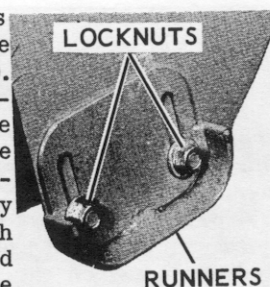

Figure 1
a. An adjustable runner is provided on each end of the blower housing (figure 1). Raising or lowering these runners controls the distance the scraper blade is held above the surface being plowed. Adjustment is accomplished by loosening the two nuts on each of the runners to the desired position and retightening the nuts. When plowing on concrete or other hard surfaces, these runners should be adjusted so that they are approximately 1/8-inch below the scraper blade. When plowing gravel side-